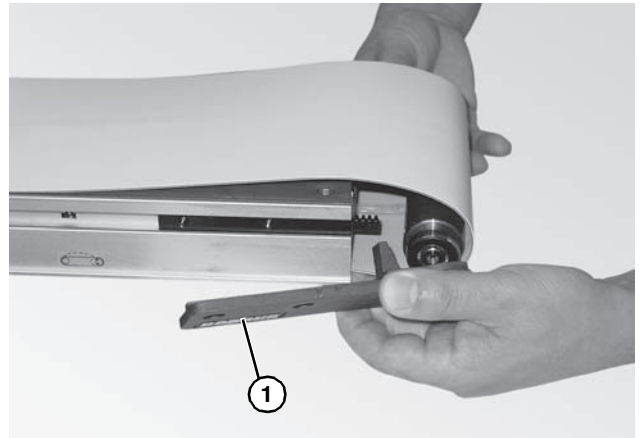

Figure 57
2. Place the head plate (**Figure 57, item 1**) and attach the head plate to the conveyor frame with the two (2) screws removed and hand tighten.